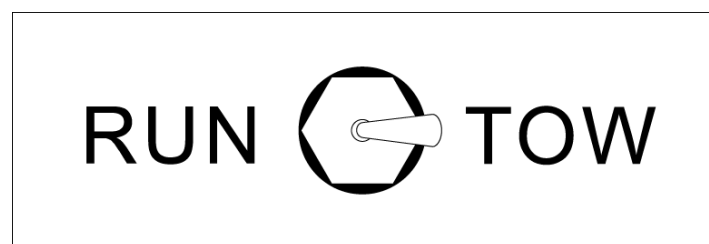

Figure 8
- Flip open the seat and switch the controller to "TOW" position. (See Figure 8)